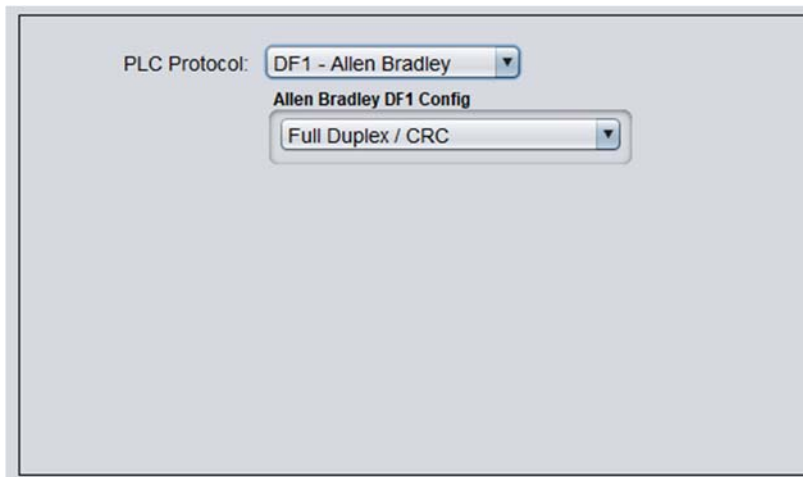

Figure 17: Remote Site PLC Emulation Configuration
- Set the destination address as the path to the Master site (183,181,180). See Figure 17.